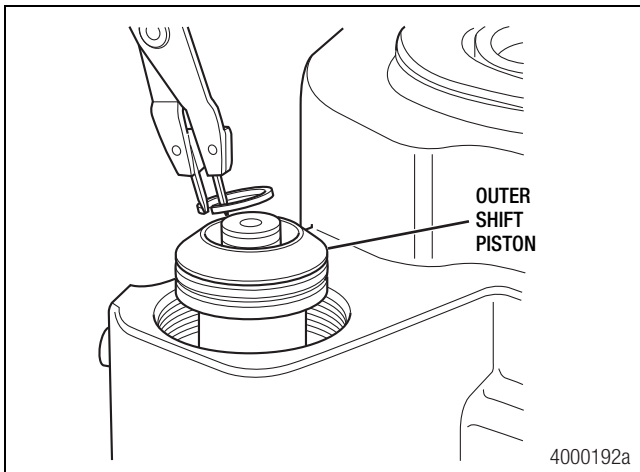

Figure 5.19
4. Remove the outer shift piston snap ring from the shift shaft. Remove the shift piston. Figure 5.19.